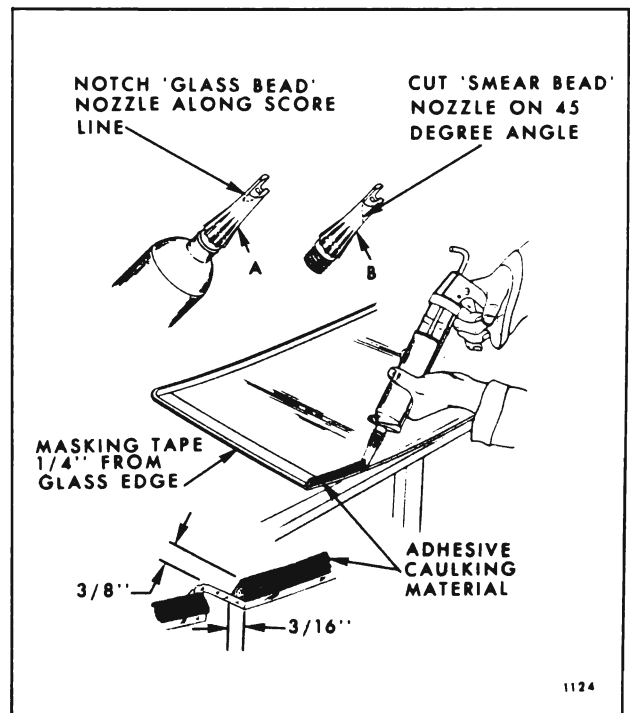

Fig. 4-23—Adhesive Caulking Material Application - Extended Method
- Apply one inch masking tape completely around edge of glass inner surface 1/4" inboard from outer edge (see Fig. 4-23).
12. With caulking gun and nozzle positioned as illustrated in Figure 4-23, carefully apply a smooth continuous bead of caulking material 3/8" high by 3/16" wide at base completely around inside edge of glass.